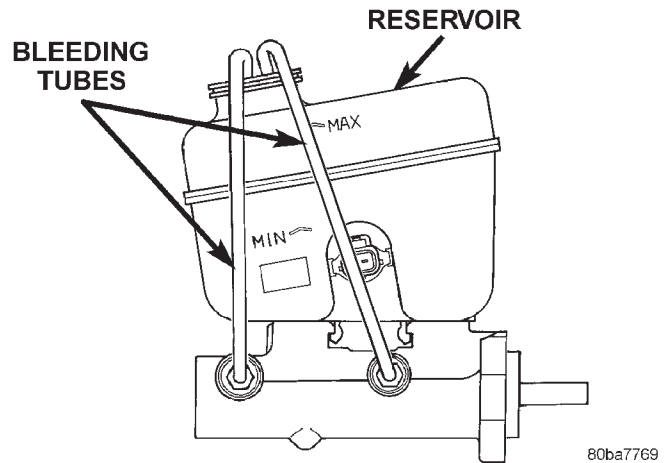

Fig. 11 Master Cylinder Bleeding
- (1) Mount master cylinder in vise with brass jaws.
- (2) Attach bleed tubes to cylinder outlet ports. Then position each tube end into the bottom of the reservoir (Fig. 11).
- (3) Fill reservoir with fresh brake fluid.
- (4) Press cylinder pistons inward with wood dowel. Then release pistons and allow them to return under spring pressure. Continue bleeding operations until air bubbles are no longer visible in fluid.